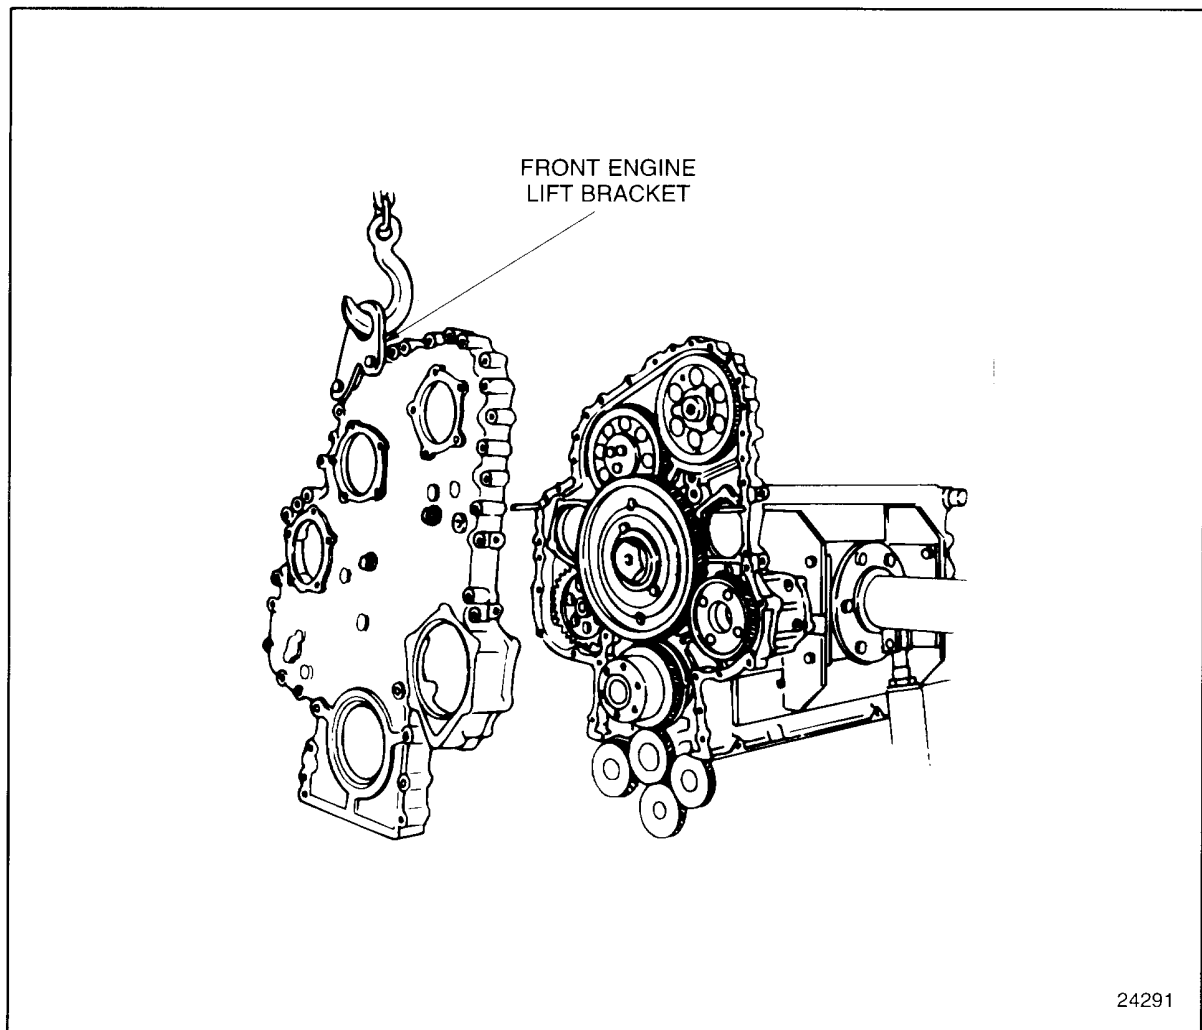

Figure 1-158 Engine Gear Case Cover Removal
13. Support the gear case cover with a suitable lifting device, using the front engine lift bracket. See Figure 1-158.